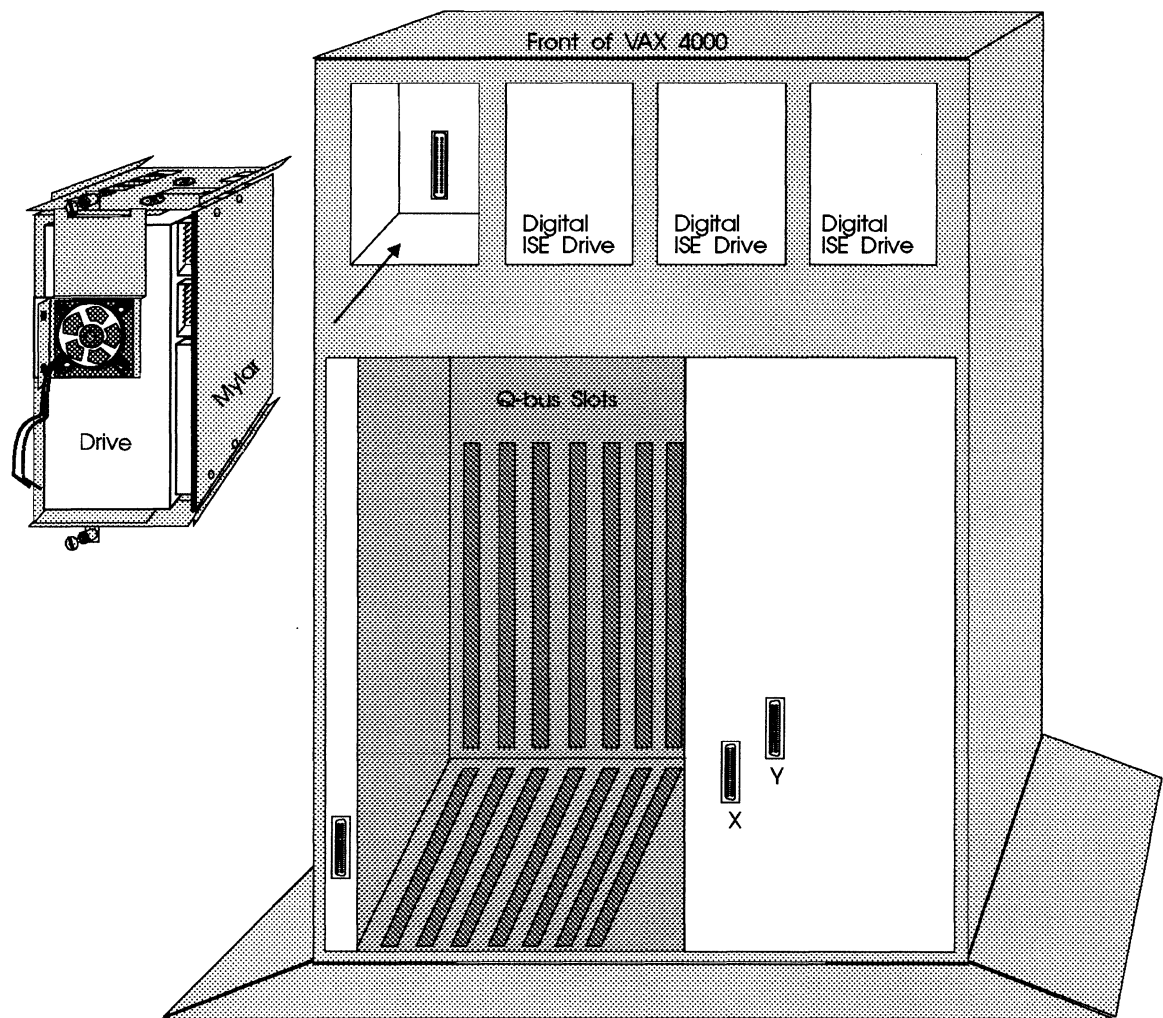

Figure 4-7: CDI-4000-SE ISE and drive alignment
- 12 Turn the drive and the ISE chassis so that the mylar insulator faces the right and the floating connector faces the system. See Figure 4-7.